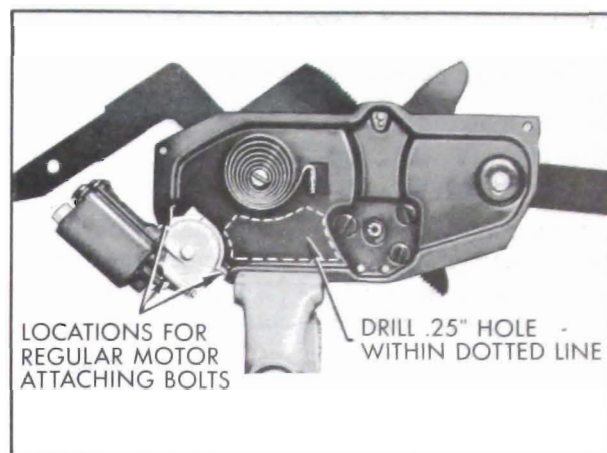

Figure 4-21—Window Regulator Motor Removal
2. Place regulator assembly in a vise as shown in Figure 4-21.
3. Drill a 1/4 inch hole through regulator backplate and main sector within area indicated by dotted lines (Figure 4-21).
5. Remove three (3) motor attaching bolts, at locations shown in Figure 4-21, and remove motor assembly from regulator.